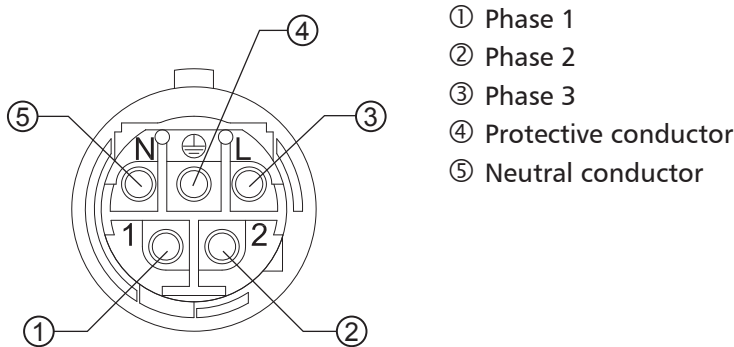

Fig. 9: Terminal pin assignments of the AC plug
- ▶ Wire the AC plug provided as described in Fig. 9 and in p. 123 onwards.